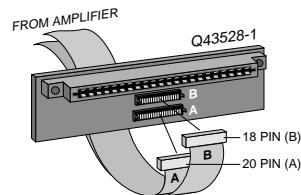

Fig. 4.6 PIP2 Input Adapter Connection
6. **Remove the existing *P.I.P.*** or cover panel from the amplifier back panel (two screws). For *PIP2* amplifiers, this may involve disconnecting the *P.I.P.* from a *PIP2* input adapter (Figure 4.6). If a *PIP2* input adapter is already present, do not remove the ribbon cables from the adapter. Otherwise you will have to reconnect them in Step 10.
*PIP2 Amplifiers:* Connect the *PIP2* input adapter to the two input cables of the amplifier (Figure 4.6). Notice that the *PIP2* input adapter should be positioned with the *P.I.P.* edge connector on top facing away from the amplifier. The 20 pin cable (A) is connected first then the 18 pin cable (B) is connected. Both ribbon